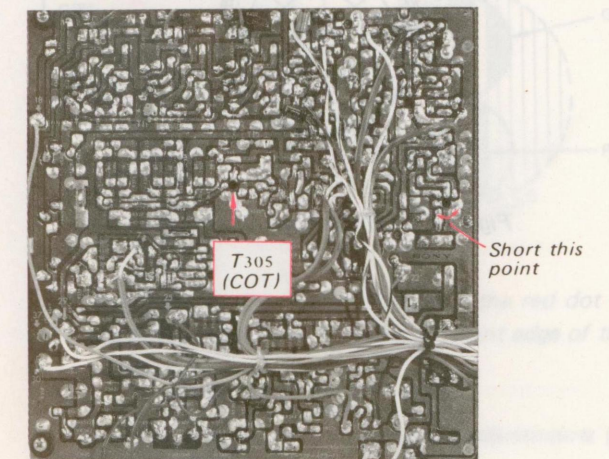

Fig. 4-2. 3.58 MHz oscillator adjustment, Step 4
4. Short the secondary of burst amplifier transformer BAT to the ground with a short jumper lead. See Fig. 4-2.